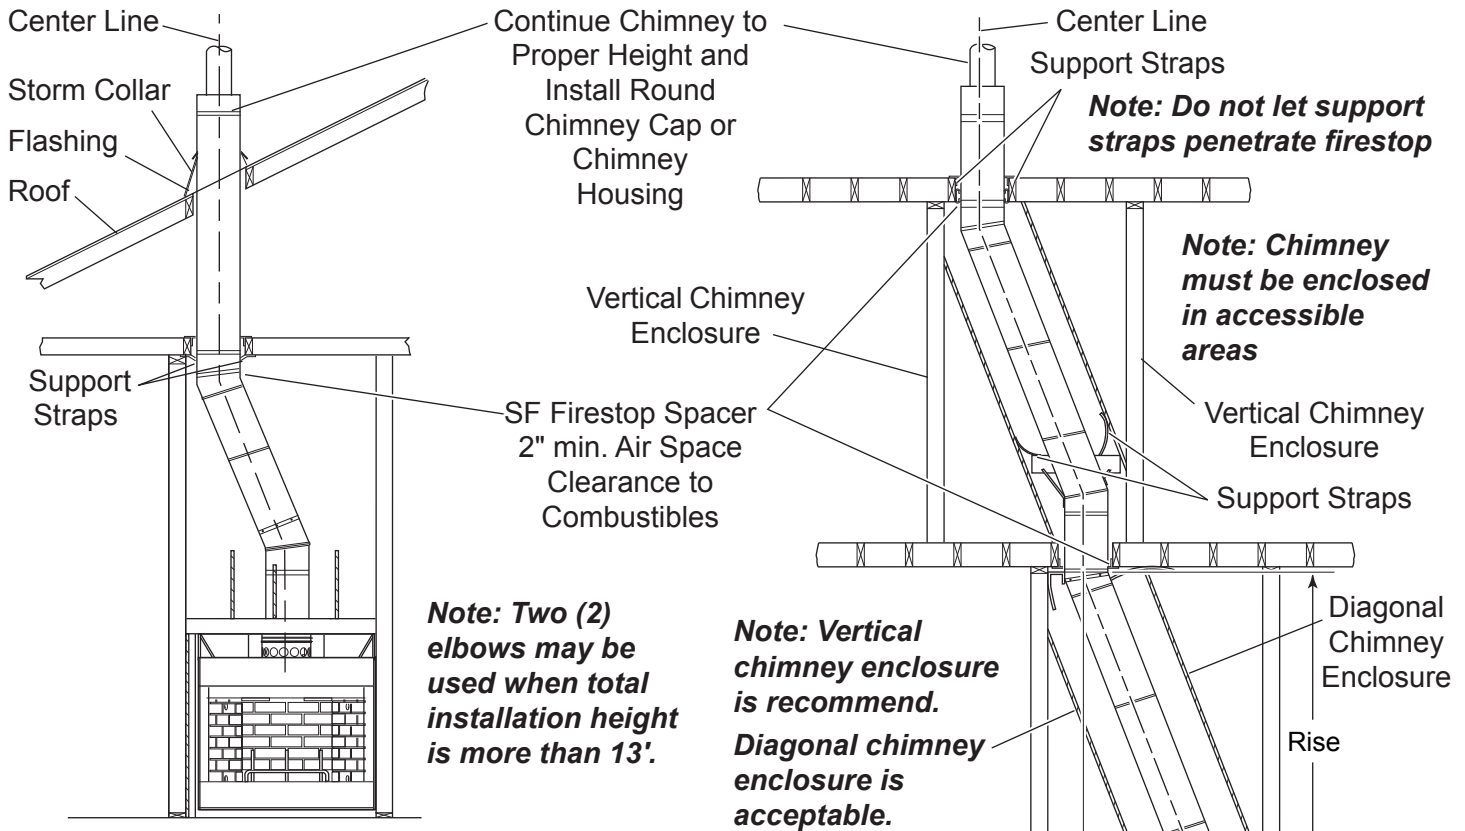

Figure 22 - Installing Chimney with Total Height of Fireplace and Chimney 13' or More
- Inclined portions of chimney is often used as storage. Enclose the inclined portions of chimney that pass through living spaces to avoid contact with and possible damage to chimney. Maintain minimum air space of 2" between chimney and enclosing. *See Figures 22 and 23.*